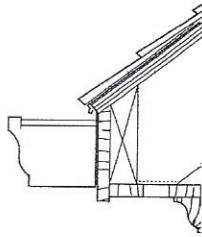

Figure 3a:
- Gutters shall be round or ogee profile (Figure 3a).